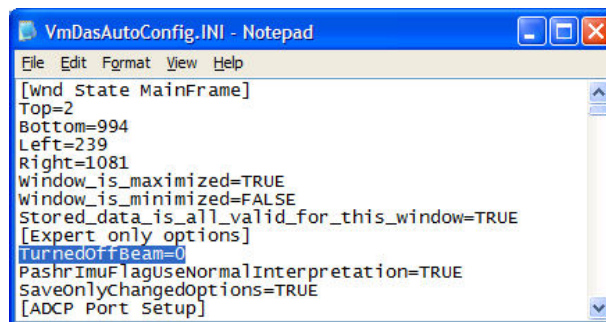

Figure 31. Disable a Beam
- c. Locate the **[Expert only options]** line (see Figure 31).